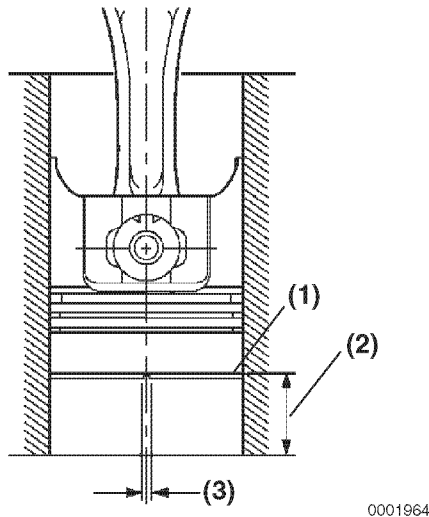

Figure 6-115
10. To measure piston ring end gap, insert each compression piston ring (**Figure 6-115, (1)**), one at a time, into the cylinder. Use a piston with the piston rings removed to slide the ring into the cylinder bore until it is approximately 1.18 in. (30 mm) (**Figure 6-115, (2)**) from the bottom of the bore. Remove the piston. Measure the end gap (**Figure 6-115, (3)**) of each piston ring. Record the measurements. See *Piston Ring* on page 6-18 for specifications.